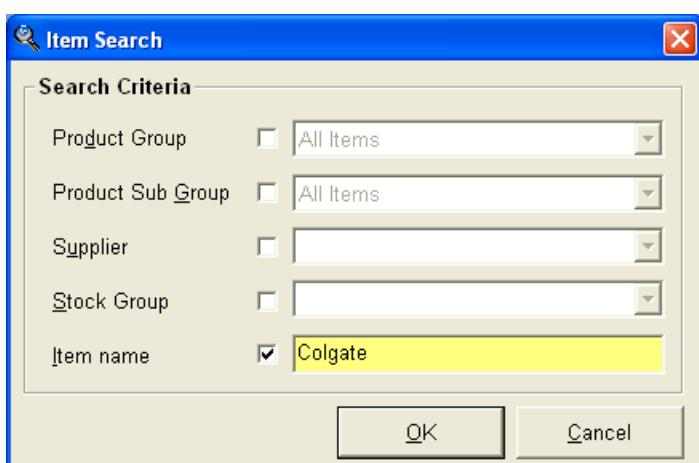

Figure 194
7. Select 'Add Multiple Items' to search for a group of stock items to add using the filters (see Figure 194).